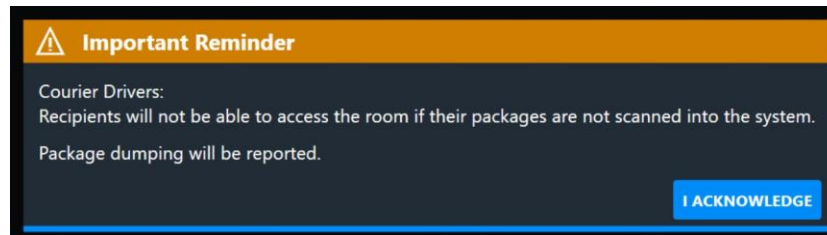

Figure 11: Courier acknowledgement
5. For couriers only, a dialog appears that asks them to acknowledge that they understand they need to scan **every** package into the package room system. Tap **I Acknowledge** (this button will be available to tap after 5 seconds to give you time to read the statement). See Figure 11.